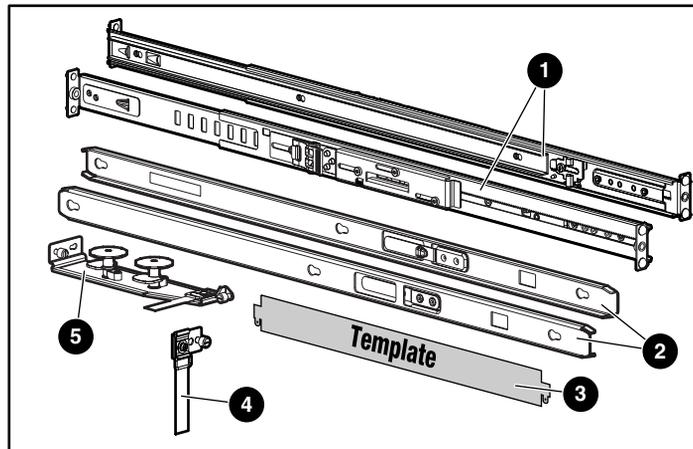

Figure 2-2. Rack-mounting hardware
- Rack-mounting hardware (Figure 2-2 and Table 2-1)